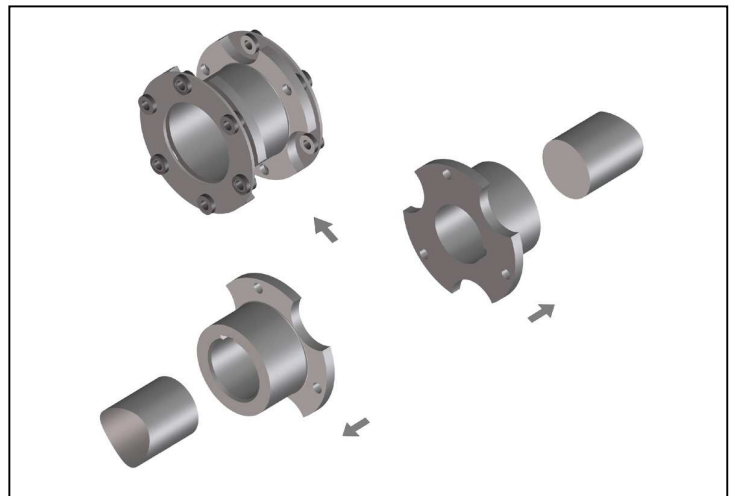

Fig. 3
- Mount the coupling hubs in the proper position on the shaft ends (Fig. 3).